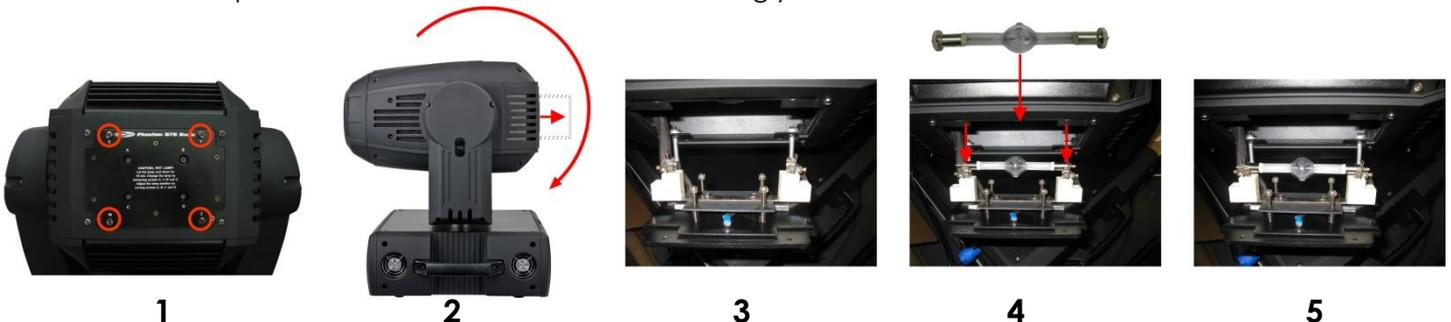

Fig. 3
3. Read lamp instructions. Do not touch the lamp bulb glass. (See Figure 3.)